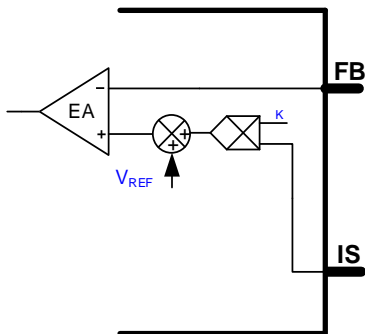

Figure 12: Cable Drop Compensation
The voltage drop on the cable is proportional to the output current, which is reflected on the voltage of the IS pin (see Figure 12). The maximum CDC voltage on FB is  $V_{CDC\_MAX}$ . The cable drop compensation voltage can be calculated with Equation (20) on page 29.